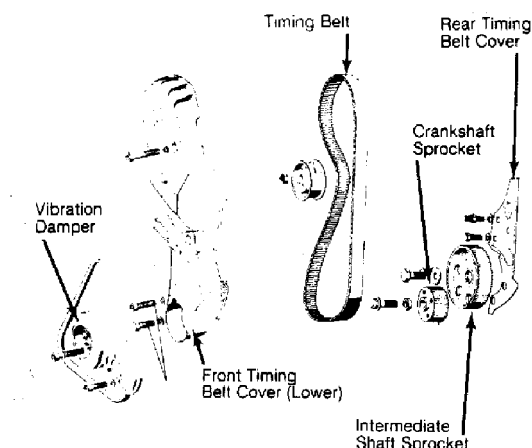

Fig. 2: Scirocco 16-Valve Timing Belt Cover
Outer cover consists of upper and lower parts. See Fig. 2. Inner (against block) timing belt cover is one piece. Remove all drive belts. Remove crankshaft and water pump pulleys. Remove outer covers. To install, reverse removal procedure.
3) Loosen timing belt tensioner to relieve tension on timing belt. See Fig. 2. Slide timing belt off sprockets. Do not allow camshaft, crankshaft or intermediate sprockets to turn when removing timing belt.